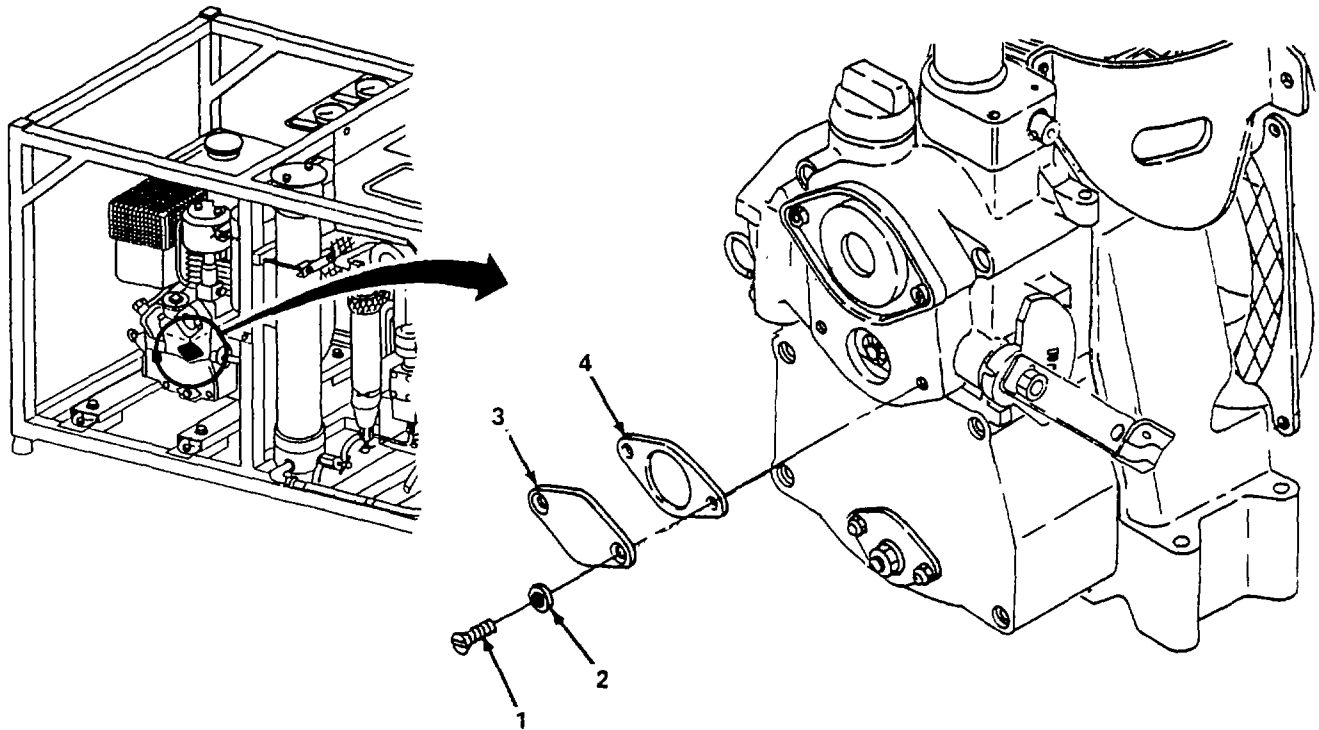

Figure 4-29. Cover Plate, Replace.
(2) *Replace coverplate.* (figure 4-29).
- (a) Remove two screws (1), washers (2), plate (3), and gasket (4). Discard gasket (4).
- (c) Install new gasket (4) and plate (3) and secure with two screws (1), and washers (2).